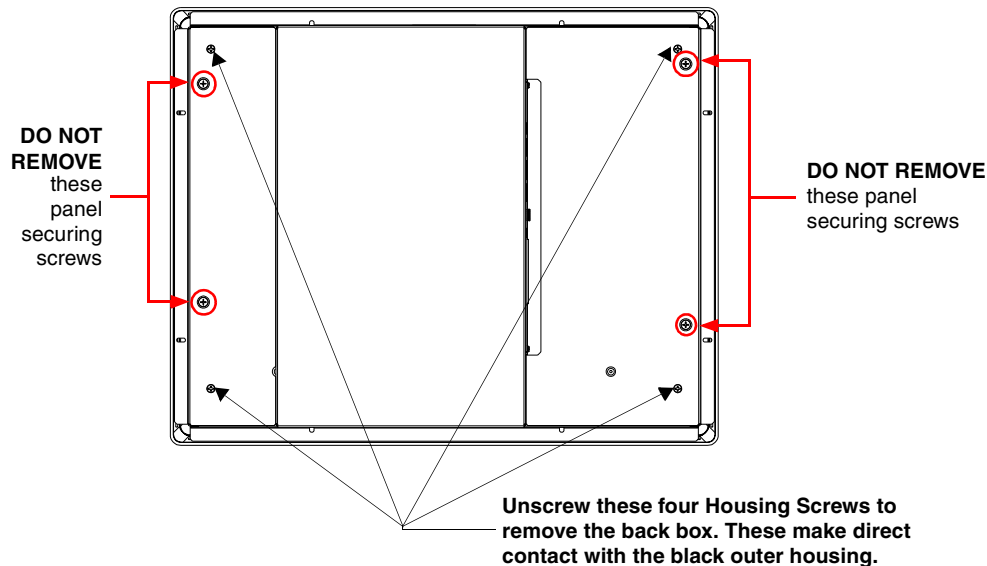

FIG. 51 Location of the attachment screws on the NXD back box
6. Remove the four pan-head Housing Screws from the rear of the NXD unit (FIG. 51). These screws secure the back box to the internal panel casing.